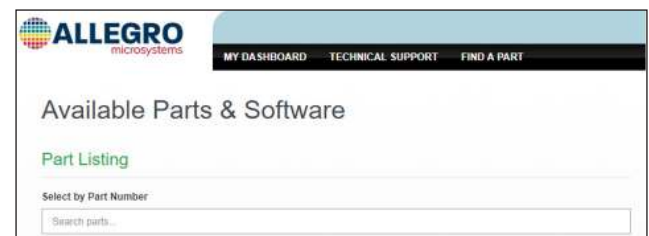

Figure 4: “Select by Part Number” on the Available Parts & Software page
5. Search for “ACS70310” in the “Select by Part Number” search bar shown in Figure 4.